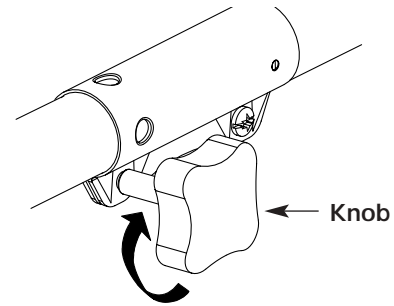

Fig. 9
4. Turn the knob clockwise to tighten (Fig. 9).